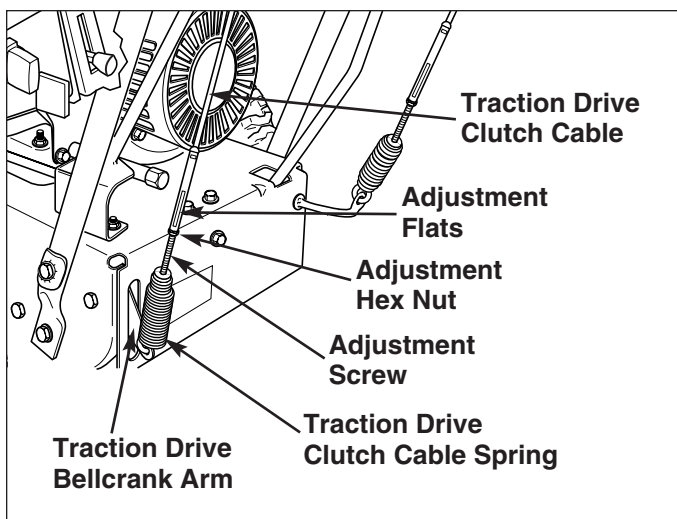

Figure 20. Traction Drive Clutch Cable Adjustment
1. Loosen adjustment hex nut (Figure 20) by holding the adjusting flats and turning adjustment hex nut.